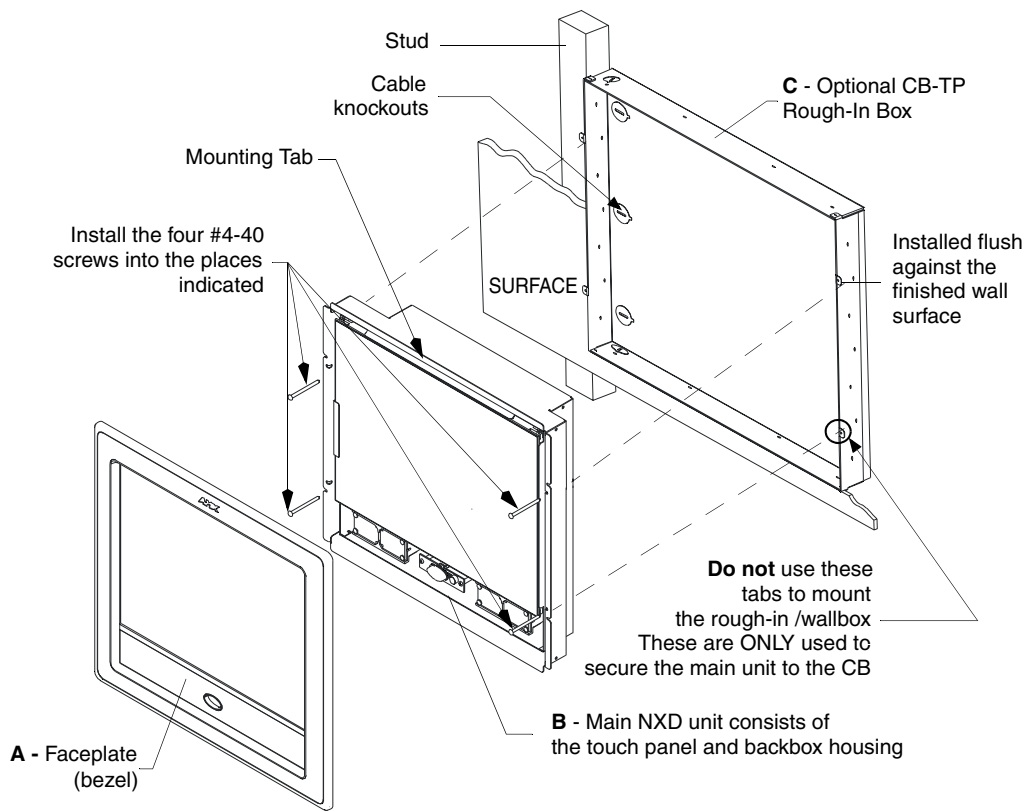

FIG. 2 Wall Mount panel installation configuration for pre-existing Rough-In Box in a pre-wall construction
2. Remove any necessary wiring knockouts from the Rough-In Box (C in FIG. 2) where the necessary cables are threaded through for connection to the touch panel.
1. Remove the magnetic faceplate/bezel (A in FIG. 2) from the main NXD unit (B in FIG. 2) by gripping the faceplate and pulling with gentle outward force.
6. Carefully slide the main NXD unit (B in FIG. 2) into the Rough-In Box, so the Mounting Tab lies flush against the Rough-In Box (C in FIG. 2).
8. Replace the magnet faceplate (A in FIG. 2) back onto the main NXD unit. *Make sure to align the Microphone, Light, and PIR Motion sensor locations to their respective openings on the front bezel/faceplate.*